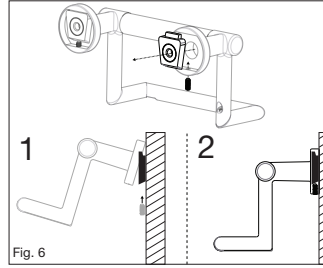

Fig. 6
- Attach Assist Bar onto mounting bracket and secure with the provided 10-24 X 1/2" Socket Set Screw. Repeat for opposing side. (Fig. 6)